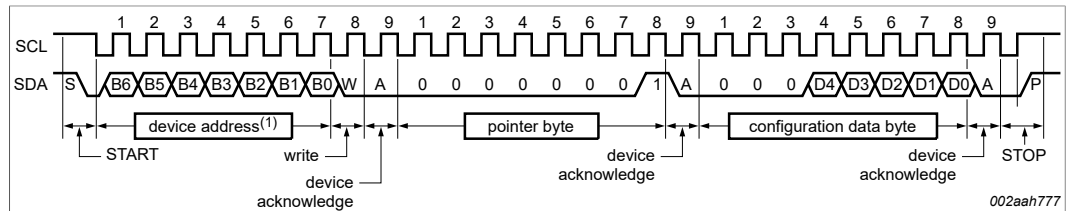
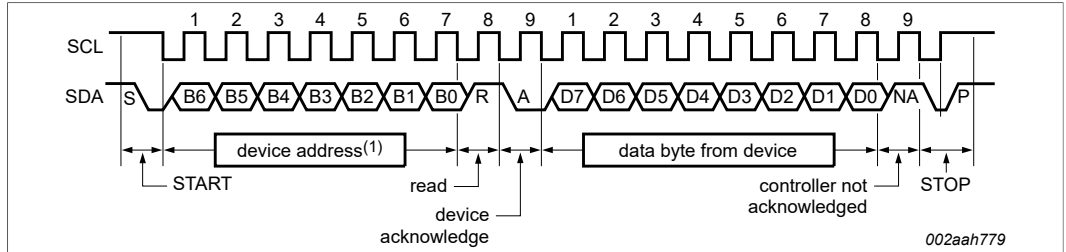
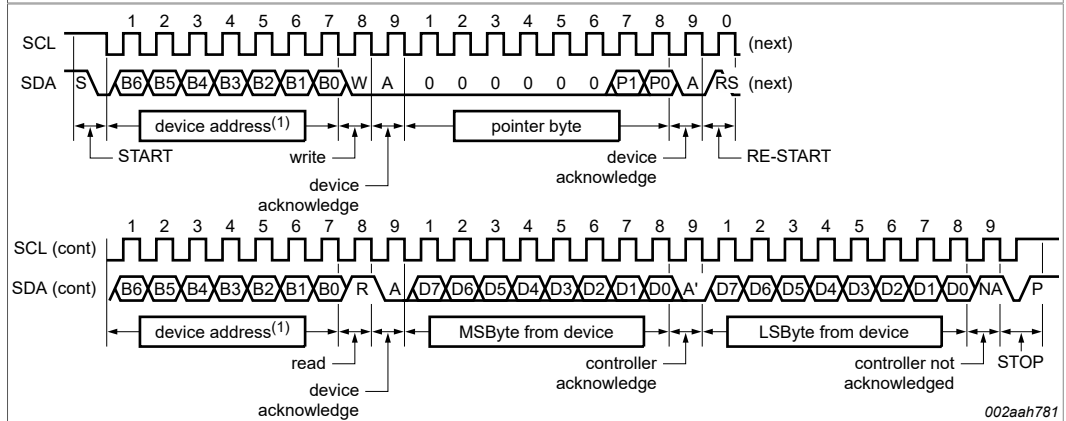
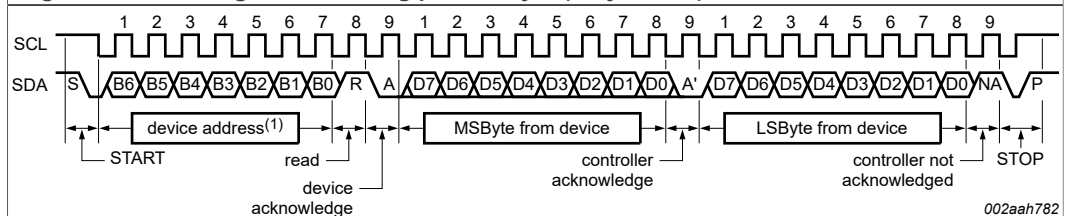

Figure 17. Write configuration register (1-byte data)
Figure 19. Read configuration or temp register with preset pointer (1-byte data)
Figure 21. Read register including pointer byte (2-byte data)
Figure 22. Read register with preset pointer (2-byte data)
The communication between the host and the device must strictly follow the rules as defined by the I²C-bus management. The protocols for device register read/write operations are illustrated in Figure 17 to Figure 22 together with the following definitions:
14. For best temperature accuracy both temperature bytes should be read as shown in Figure 21 and Figure 22 but for a quick less accurate check/reduce bus transmission than only one byte, the MSByte, must be read as shown in Figure 19.